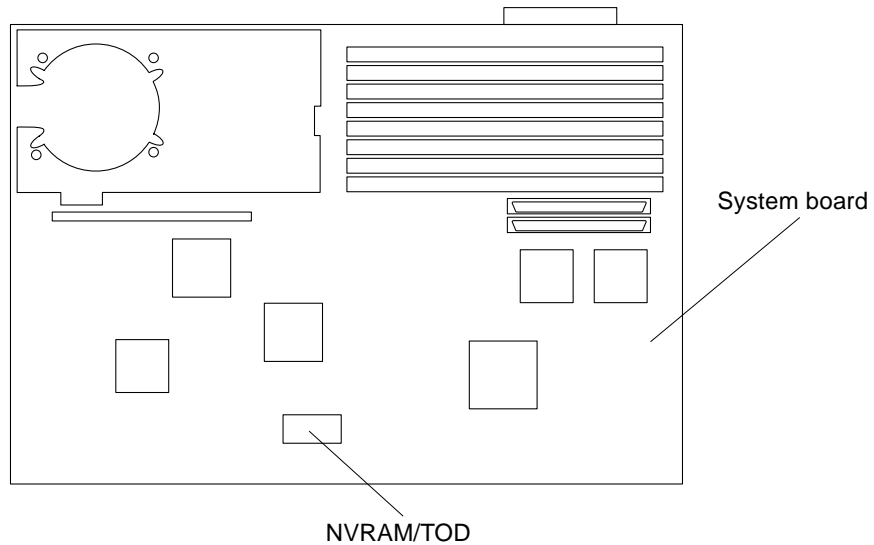

FIGURE 10-11 NVRAM/TOD
4. Locate the NVRAM/TOD and carrier on the system board (FIGURE 10-11).
1. **Position the replacement NVRAM/TOD and carrier on the system board** (FIGURE 10-11).